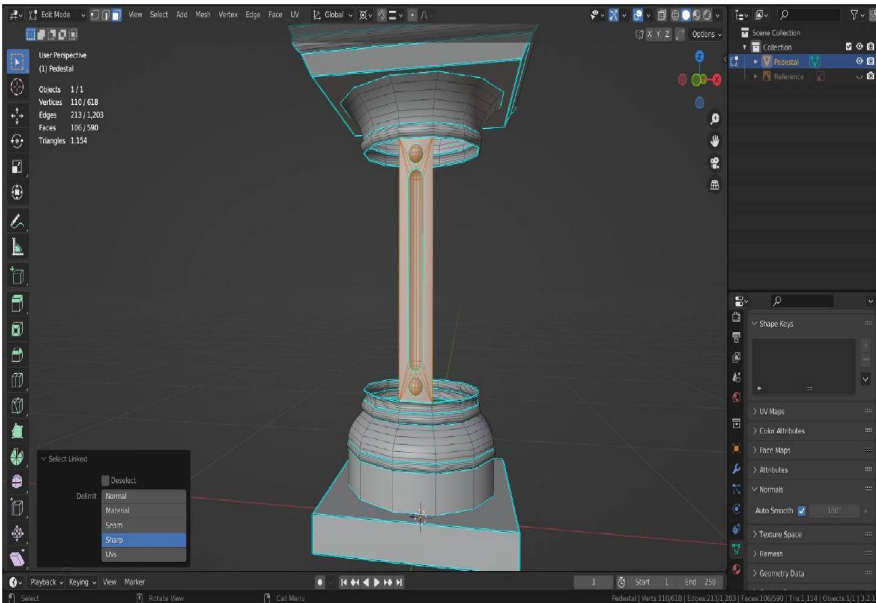

Figure 4.36: Fluted face and hemispheres selected by Linked, Delimited by Sharp
27. the process of filling and triangulating the remaining space at the bottom of the elongated hemisphere in the same way, as shown in *Figure 4.36*.
29. The final step to prepare this new geometry for repeating around the pedestal's core is to hover the mouse over the unselected hemisphere and press **L** to Select Linked, then change the Delimit method to Sharp, then hover the mouse over the elongated hemisphere, continuing to press **L** over the new surrounding faces until only the fluted face and hemispheres are all selected as shown in *Figure 4.36*: